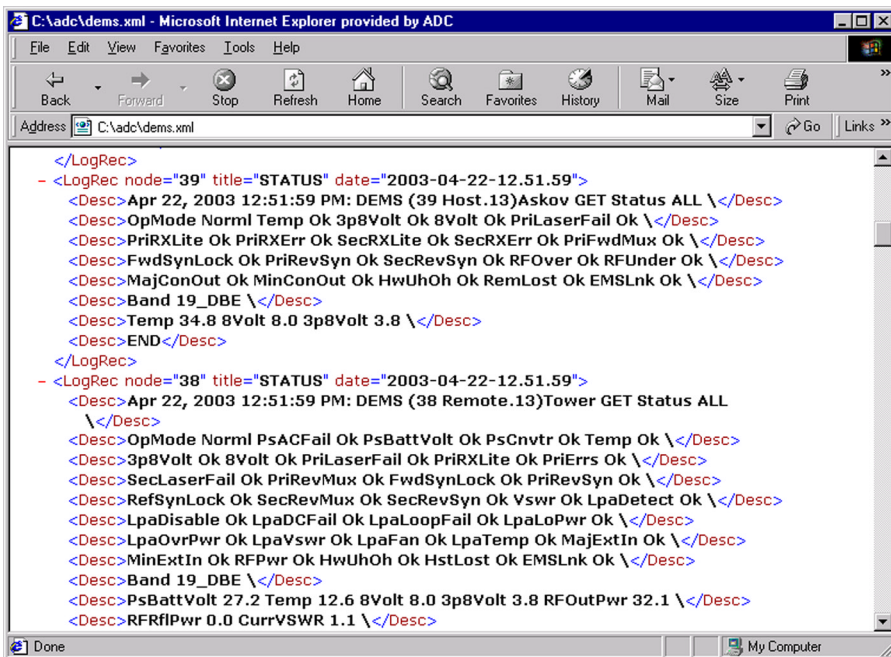

Figure 46. Log File Displayed in Internet Browser
The EMS log file (by default, `demis.xml`) serves as a repository for status and alarm records written by the EMS software. Within the file, the records are stored in an “extended markup language” (xml) format that can be displayed by most internet browsers. Each separate record is preceded and ended by the tag `<logrec>` which can be seen in the example shown in Figure 46.
3. The log file displays in the browser window as shown in Figure 46.